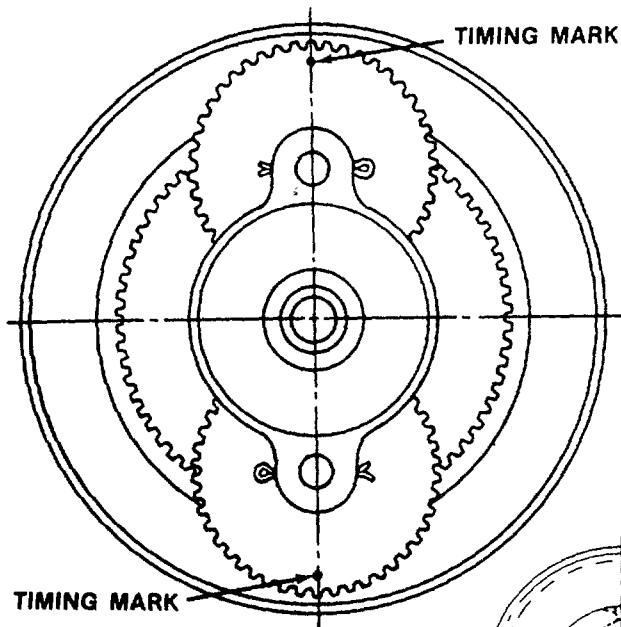

Fig. 1
- (A) Unscrew 4 screws on cover and remove cover.
- (B) Note the proper timing mark position of the two planet gears. See Figure 1 page 8.
- (C) Back-out the square head set screw to permit the pinion cage with the two planet gears to be pulled from the load shaft.
- (D) The two planet gears are removed by pulling the cotter pins and slipping the shafts from the gears.
Reassembling: Mount planet gears in pinion cage with cotter pins in place. Align set screw hole in pinion cage with cotter pins in place. Align set screw hole in pinion cage with the set screw hole in the drive shaft and time the planet gears as illustrated in Fig. 1 Page 8.